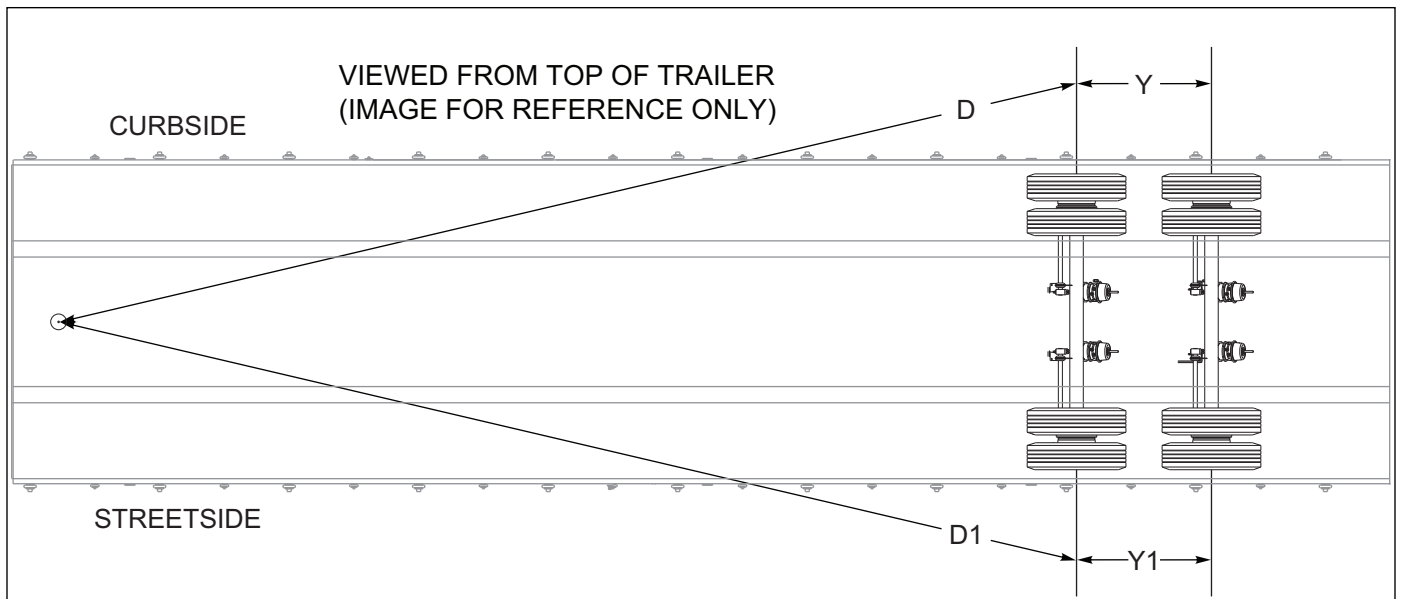

Figure 4-11: Checking Axle Alignment
5. Measure **Curbside (D)** from the plumb bob to the 1st axle center. Measure **Streetside (D1)** from the plumb bob to the 1st axle center. **Curbside (D)** should be about 1/8 in (3.18 mm) shorter than **Streetside (D1)**, *See Figure 4-11*.
2. Measure from 1st axle center to the trailer 2nd axle center on the curbside then the streetside. Measurements should be the same. Use **(Y)** and **(Y1)** as reference, *See Figure 4-11*.